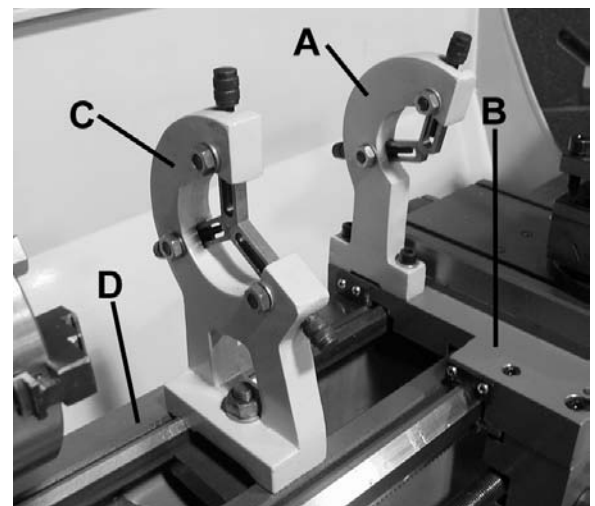

FIGURE 10
The follow and steady rests serve as workpiece supports during operations. Install the follow rest (A) Fig.10 to the saddle (B) using 2 cap screws. Install the steady rest (C) to the bedway (D) (inbetween the carriage and the chuck) using the clamp shoe, bolt and lock nut assembly.